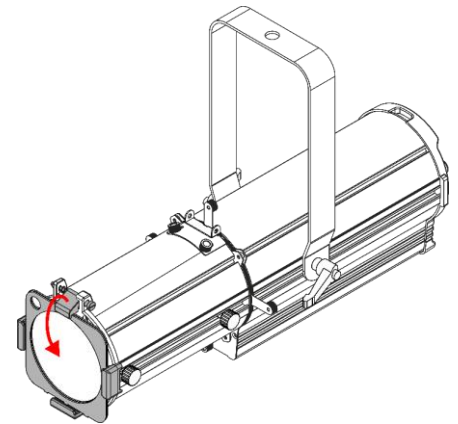

Fig. 14
- 04) Pull the **color frame clip (09)** downwards to release the **spring-loaded screw (08)** (see Fig. 14). The color frame will be locked in position.